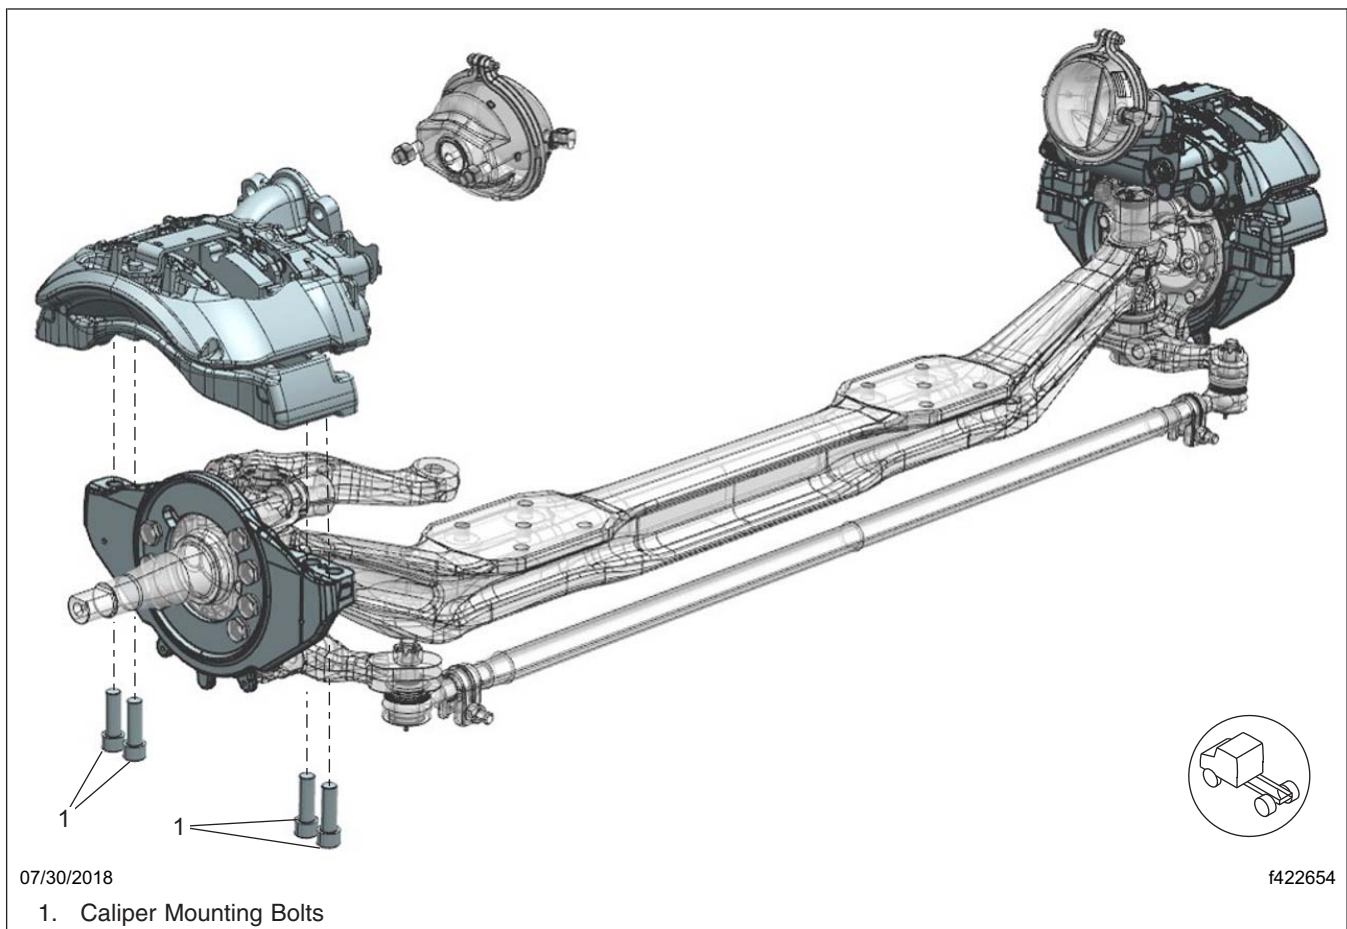
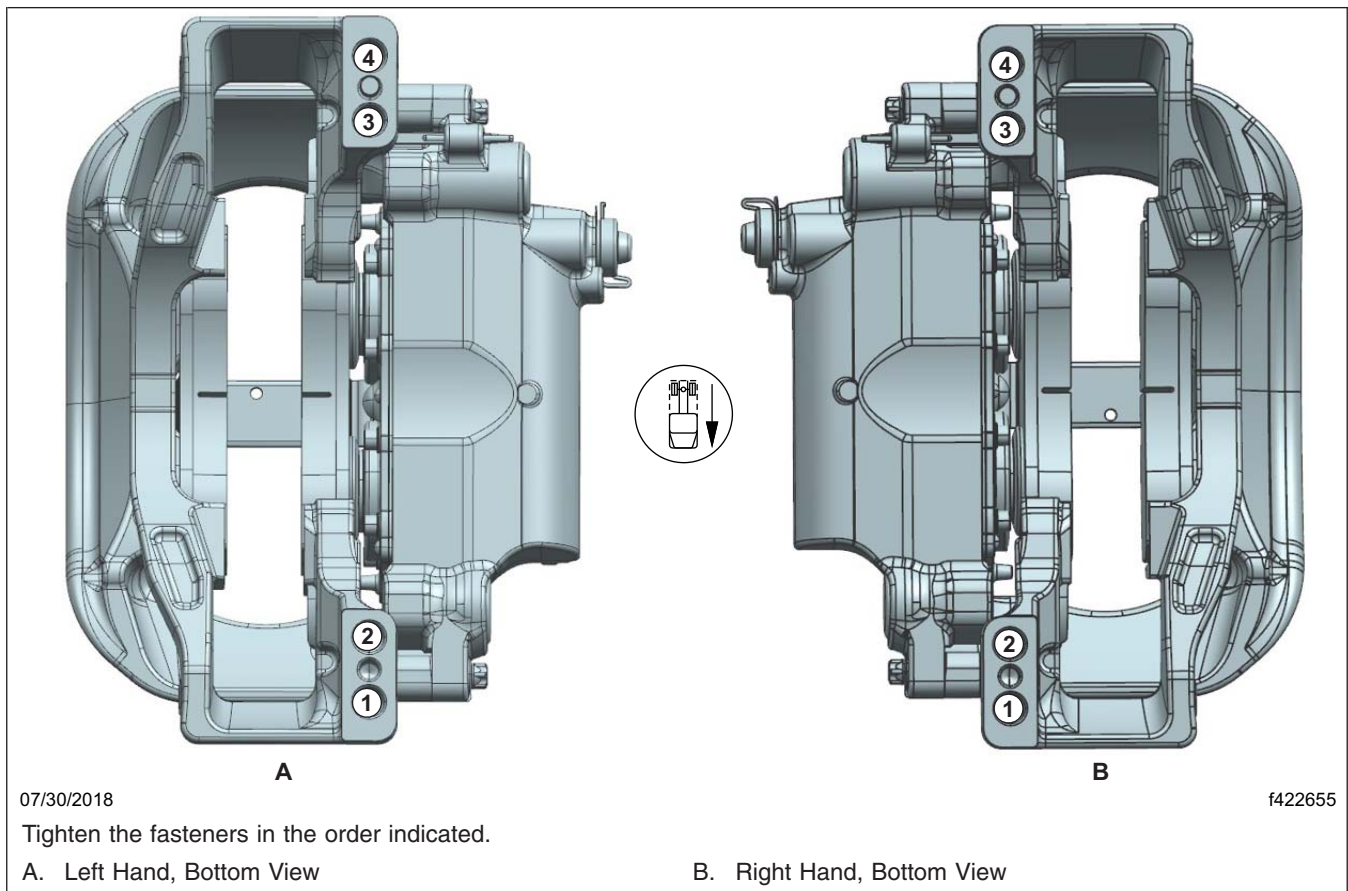

Fig. 5, Meritor Radial Mounted Caliper
Fig. 6, Tightening Pattern, Meritor Caliper
5. Align each caliper/carrier assembly with the rotor by pushing the fixed pin side of the caliper against the shelf on the torque plate, then install the caliper/carrier assembly using new caliper mounting bolts. See Fig. 5 and Fig. 6.
6. Tighten the carrier mounting bolts in two steps, using the pattern shown in **Fig. 6**.